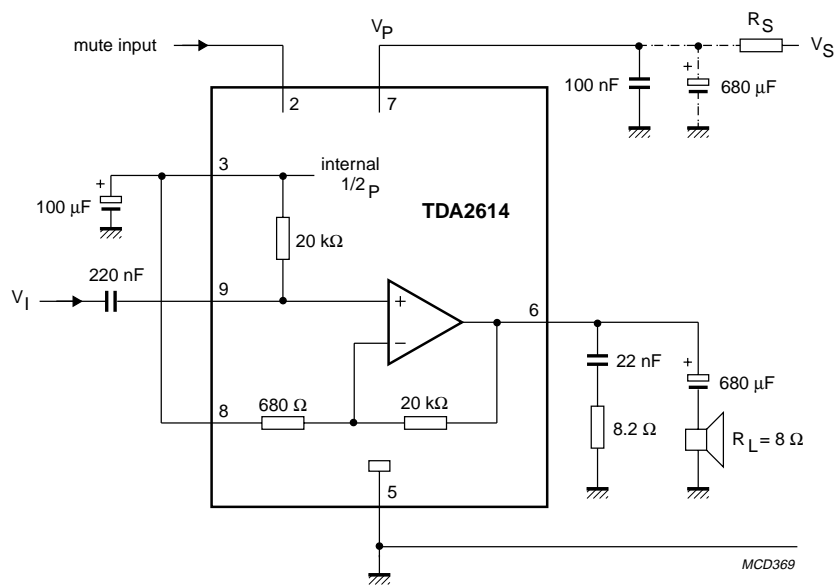

Fig.5 Test and application circuit with asymmetrical power supply.
- $V_P = 24$ V; $R_L = 8 \Omega$; $T_{amb} = 25$ °C; $f = 1$ kHz; asymmetrical power supply $I_{MUTE} < 30 \mu A$. See Fig.5
- $V_P = 8$ V; $R_L = 8 \Omega$; $T_{amb} = 25$ °C; $f = 1$ kHz; asymmetrical power supply. See Fig.5